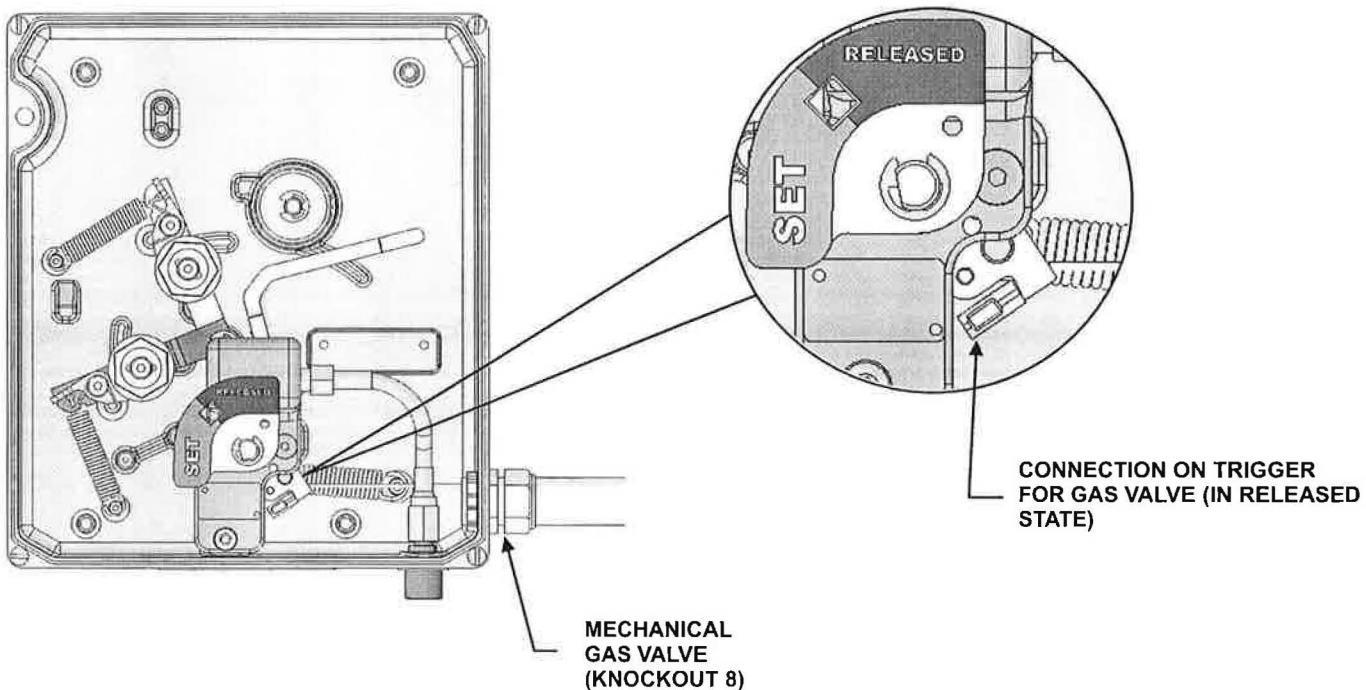

Figure 4-69. Cabling Gas Valve (Cam/Flag in 'Released' State)
4. Pull the cable back through so the crimp rests at the trigger (see Figure 4-69).